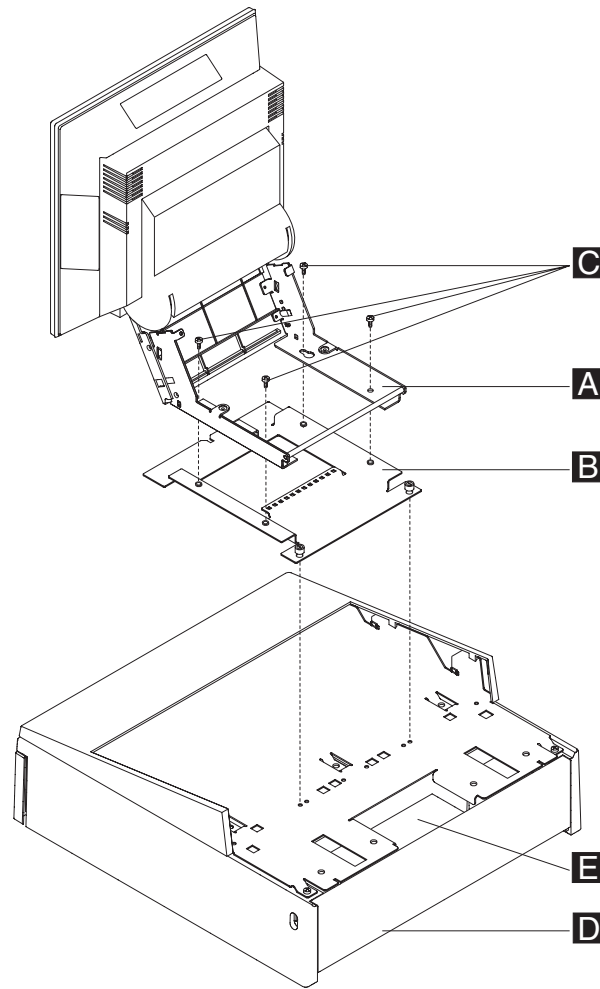

Figure 32. Attaching system to center of cash drawer integration tray
- d. Remove the thumbscrews (2) securing the system adapter plate (**B** in Figure 32 on page 49) to the integration tray. Slide the system and adapter plate to the rear as a unit to free the plate from the mounting tabs. Remove the SurePOS 500/600.